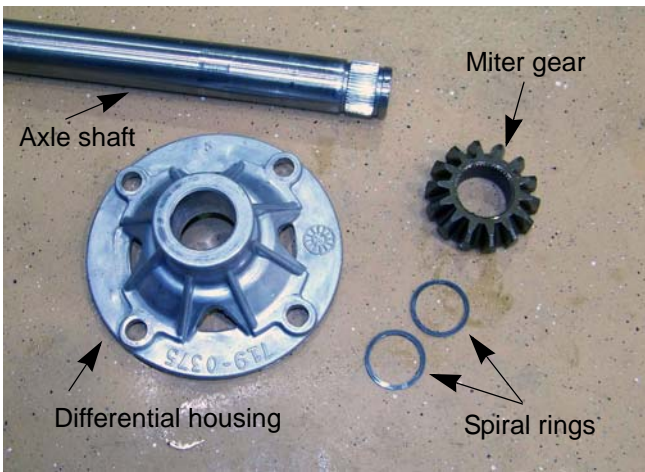

Figure 5.53
- 36. Separate the differential assembly components and inspect for damage or wear. See Figure 5.53.